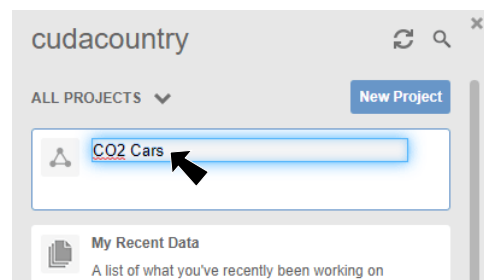

Fig. 9
Step 3. For Project Name key-in **CO2 Cars** and press ENTER, **Fig. 9**.